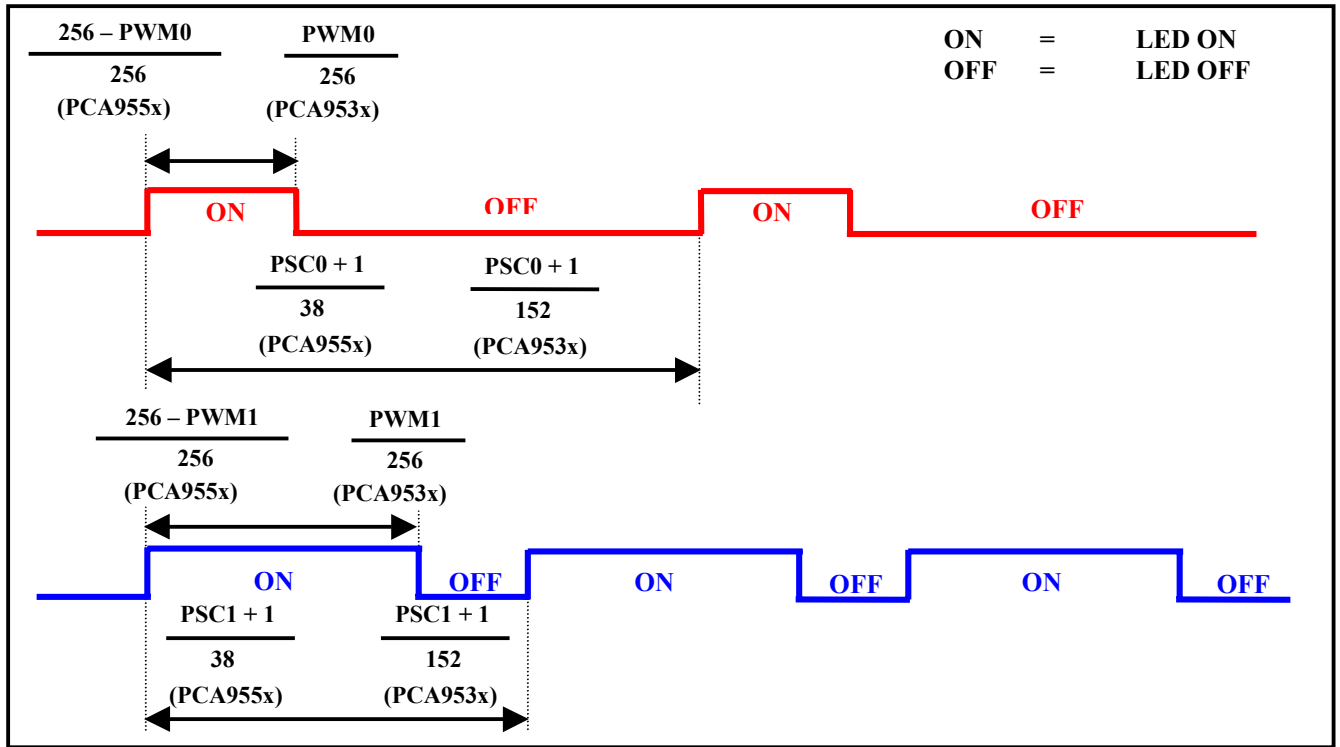

Figure 2. Blinking Waveforms
- Figure 2 gives more information on those 4 parameters.